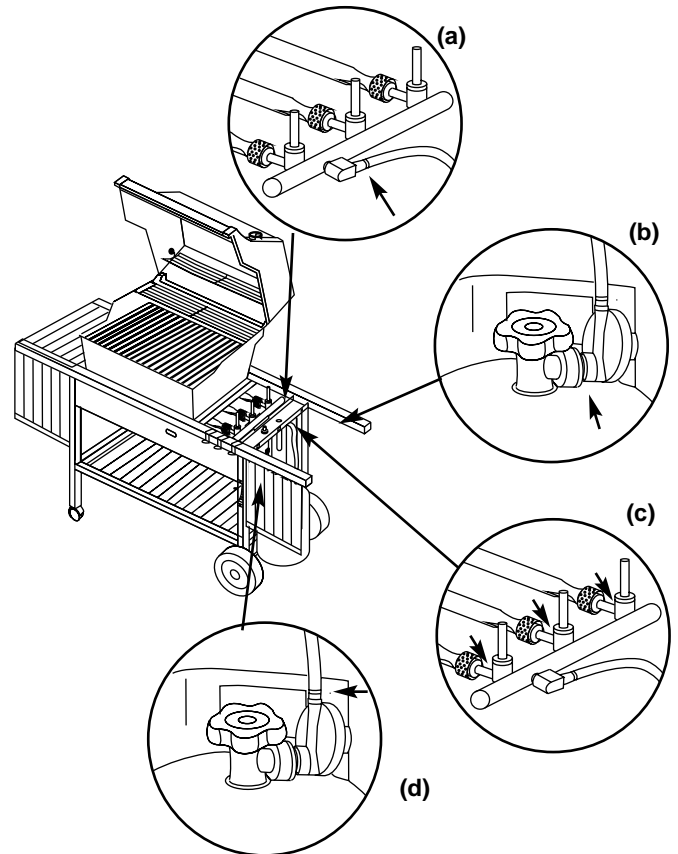

Figure 21
- a) Hose to manifold connection. Figure 21 (a).
- b) Regulator to tank connection. Figure 21 (b).
c) Valves to manifold connections. Figure 21 (c).
d) The hose to regulator connection. Figure 21 (d).